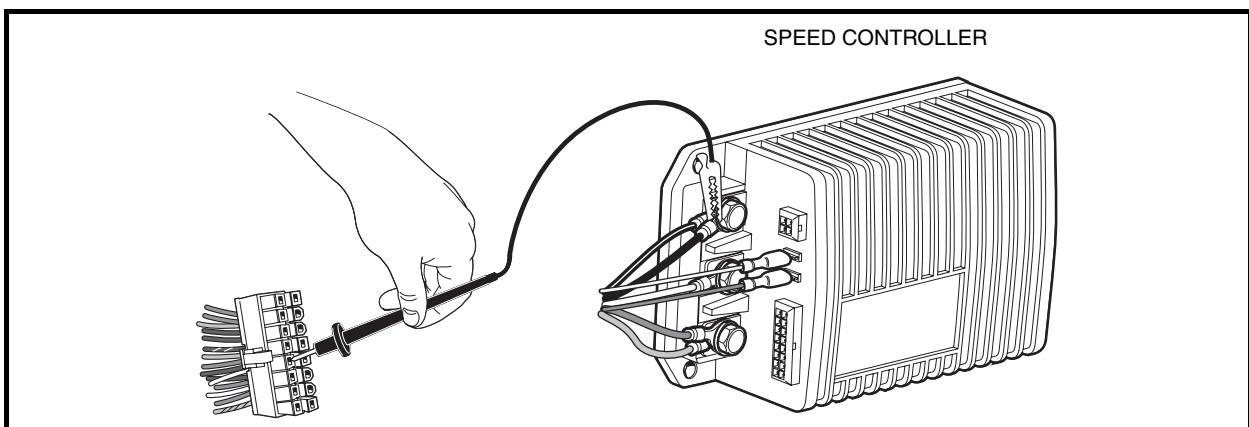

Figure 11-19 Pin 12 Test
4. Place a jumper wire with an alligator clip between the B– terminal of the speed controller (use alligator clip for this connection) and pin 12 (blue/white wire) of the 16-pin connector (**Figure 11-19, Page 11-31**). **See following CAUTION.**